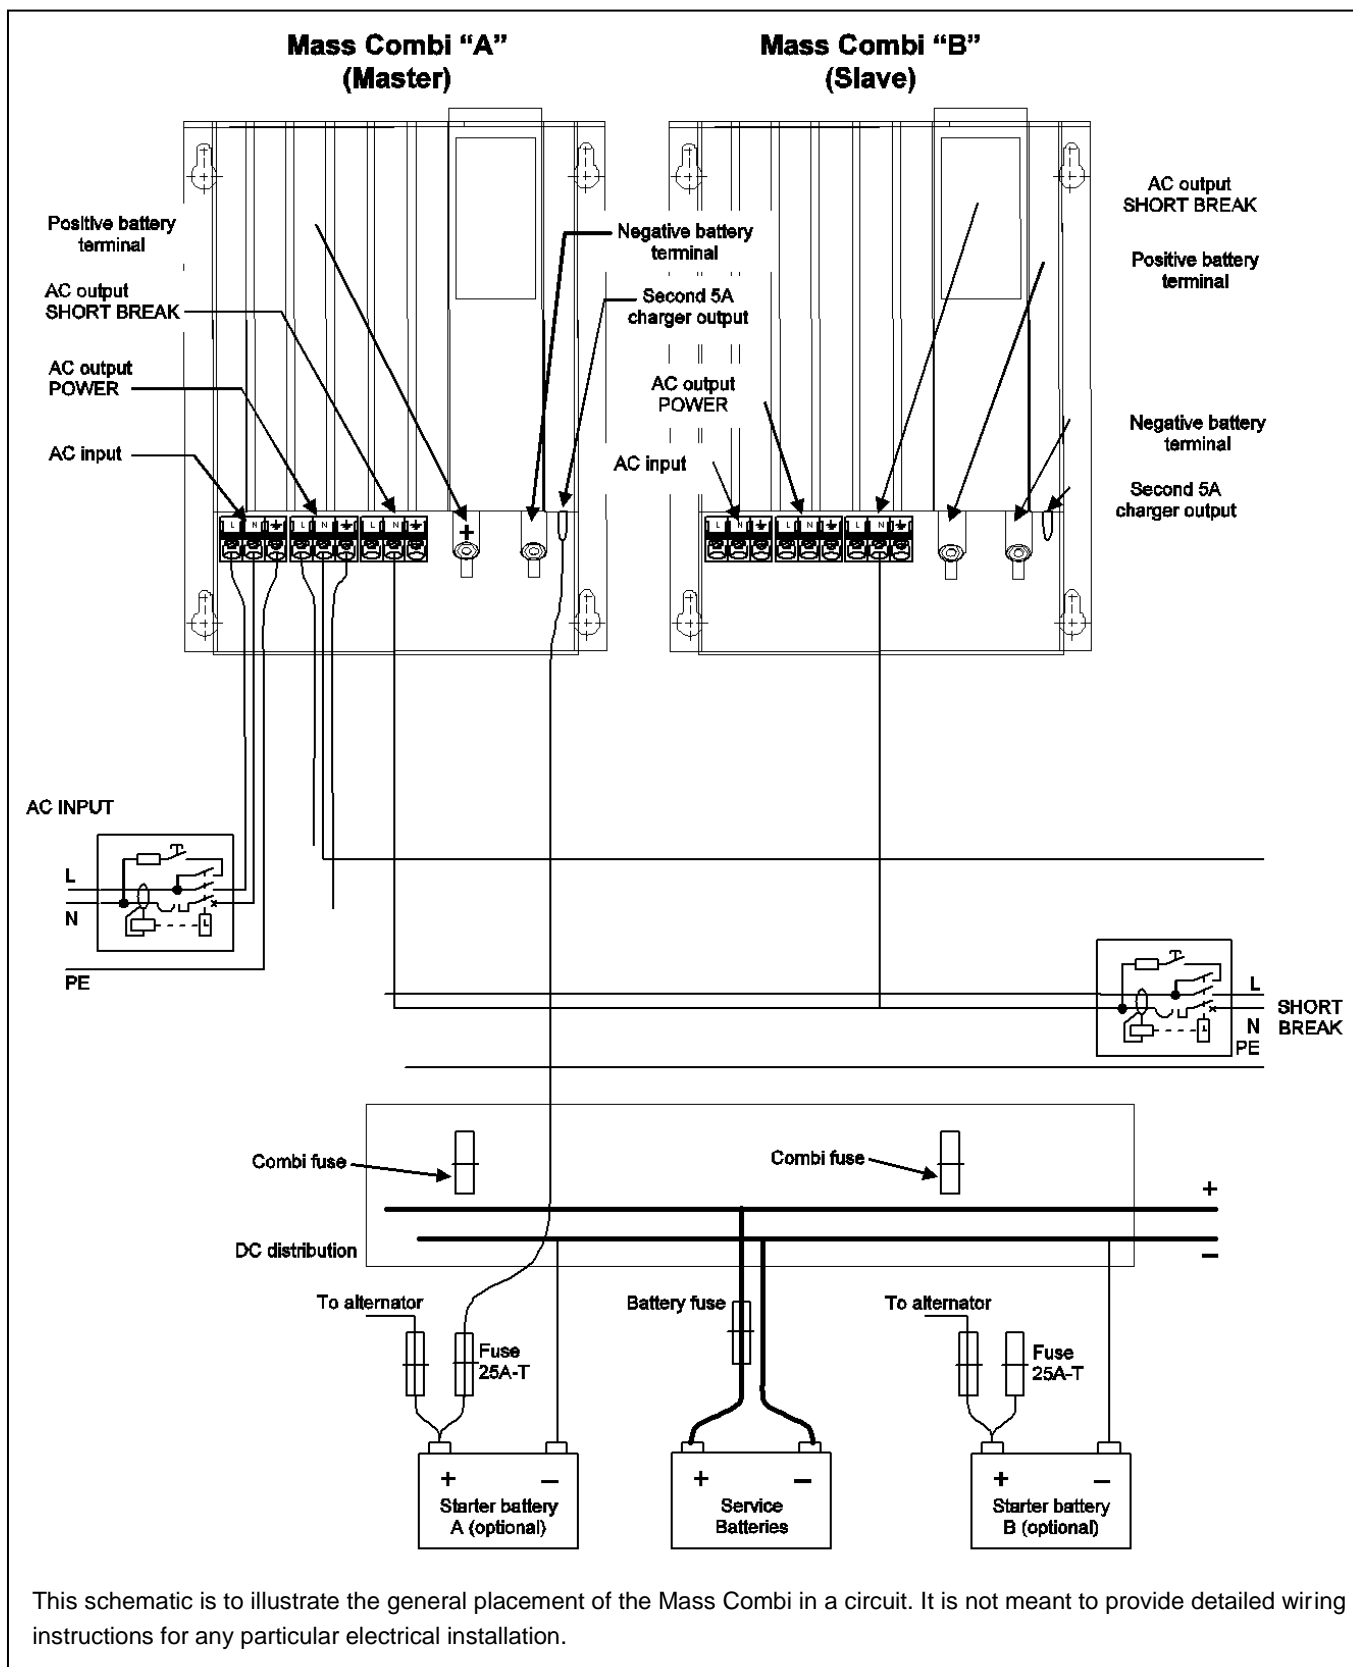
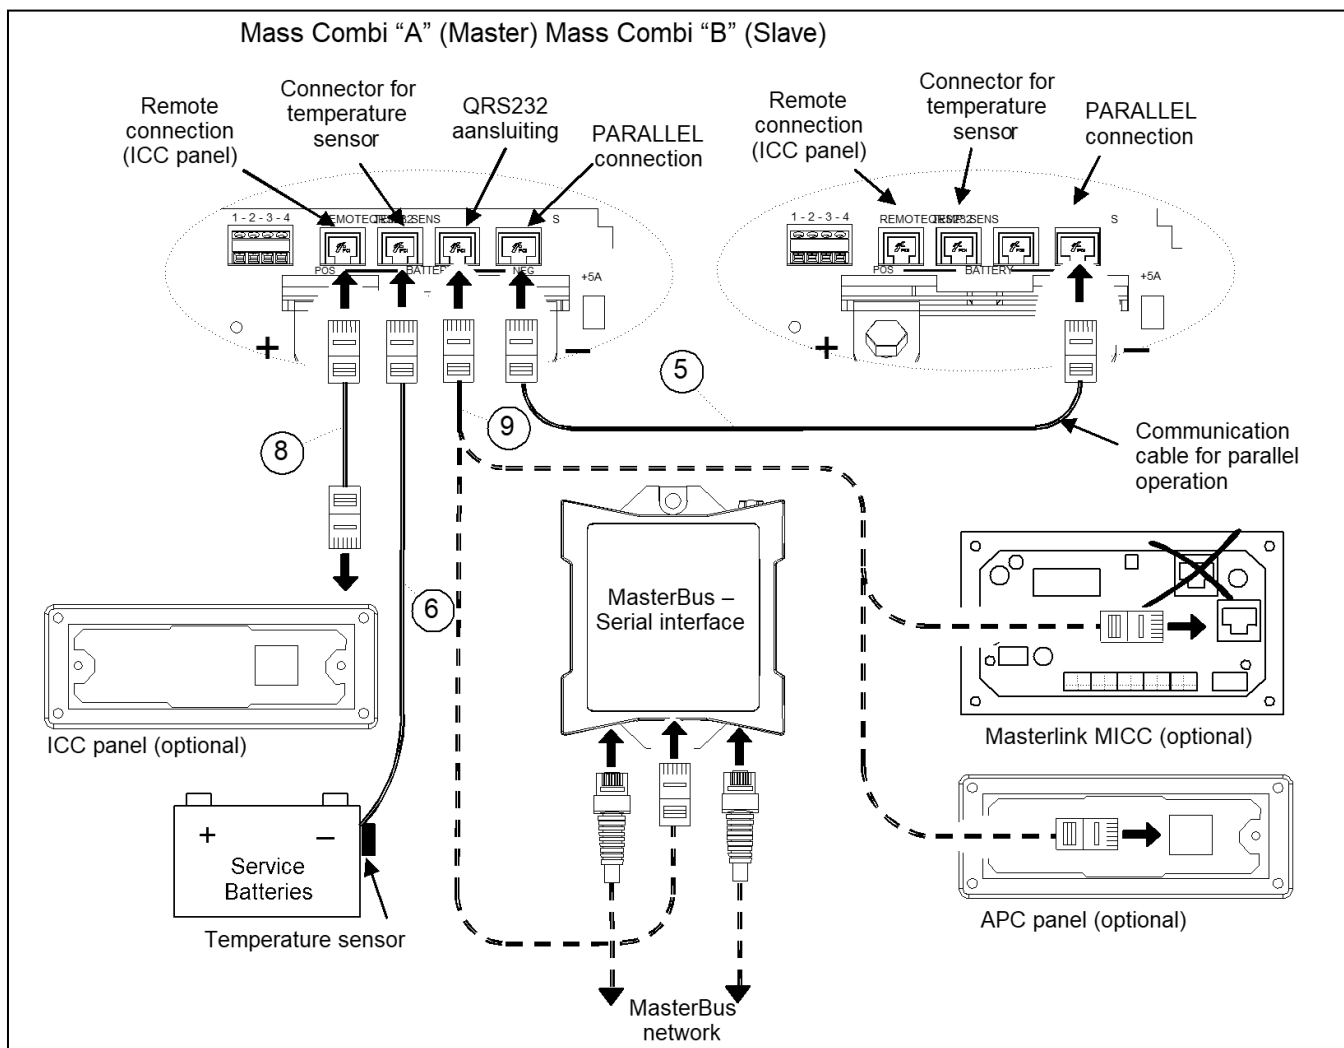

Figure 28: installation drawing for two Mass Combi's (parallel operation). See also figure 29
Figure 29: Connection of remote control panels, battery temperature sensors and communication cable for parallel operation
- 2 See reference ②. Connect the "AC output POWER" of Combi "A" to the power distribution group.
- 3 See reference ③. Connect the "AC output SHORT BREAK" of both Mass Combi "A" and Mass Combi "B" to the SHORT BREAK distribution. Beware that the L, N and PE / GND wiring may not be exchanged.
- 4 See reference ④. Run the DC-cables between the DC-distribution and each Mass Combi. Connect the red cable to the plus (+) connection, the black cable to the minus (–) connection. Do not install the DC-fuses of the DC-distribution before the entire installation is completed (see chapter 7).
- 5 See figure 29, reference ⑤. Run the modular 8-pole communication cable between Mass Combi "A" and Mass Combi "B". Connect this cable to the PARALLEL connectors.
- 6 See reference ⑥. Attach the temperature sensor to the battery and run the cable into Mass Combi "A" and connect the RJ12 connector to the "TEMP.SENS"-connector (Data Bus Connections)
- 7 Option: if you want to make use of the possibility to give a maintenance charge to a small battery set (like a starter battery), run a 6mm² /AWG10 red cable with a fuse holder between the positive pole of the starter battery and Mass Combi. See figure 28, reference ⑦. Fix the cable with an insulated faston to the "+5A"-connection. Integrate a 25 Amps–T fuse in this wire. The negative pole of this battery must be connected to the negative pole of the main battery.
- 8 See figure 29, reference ⑧. If you want to install the ICC remote control panel, run the communication cable between Mass Combi A and the panel. Connect the RJ12 connector to the "REMOTE"-input (Data Bus Connections) of Mass Combi A.